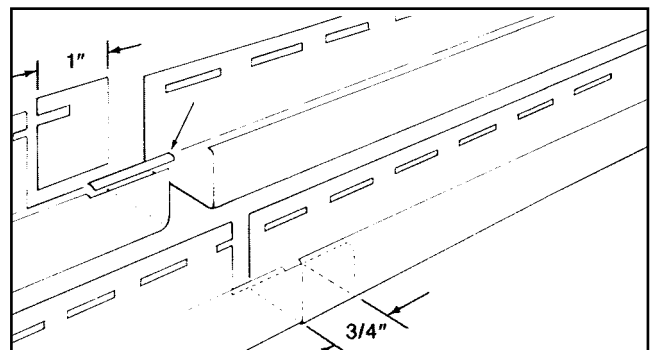

Fig 5.11
**7. SPLICING J-CHANNEL AND FINISH TRIM** Where two ends of J-Channel or Finish Trim come together they should not butt. An overlap of at least 3/4" should be made by cutting away 1" of the nailing slot portion and the top roll-over edge (Fig. 5.11). During installation the face flanges should overlap and a gap of at least 1/4" should be left between the nailing slot sections. Another option is to leave a gap of 1/4" between the two accessory piece ends.